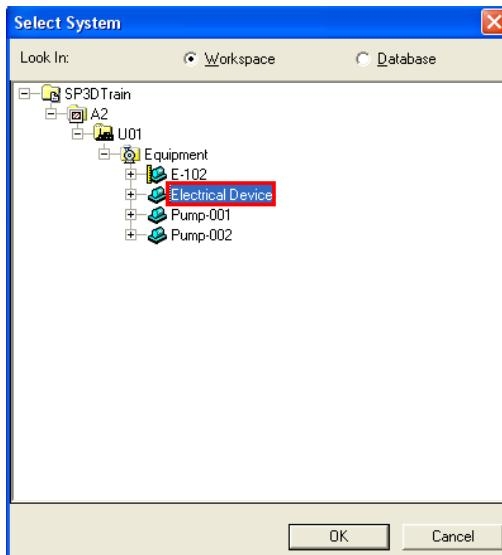

Figure 20: Select System Dialog Box
8. In the **Cable Properties** dialog box, select the **More...** option from the **Originating Device** field and select **A2 > U01 > Equipment > Electrical Device** from the **Select System** dialog box, as shown in Figure 20.